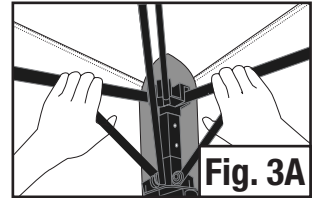

Fig. 3A
**HANDY TIP:** To fully engage the push button, grip the top and bottom frame members and squeeze as shown in Fig. 3A. Be careful to avoid pinch points.